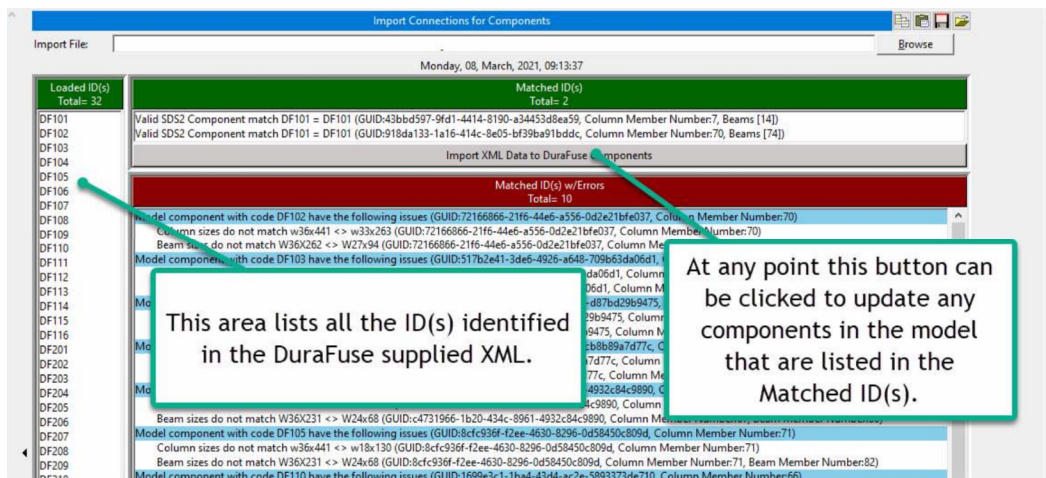

Figure 5-2. Update the XML and Identified Connection ID's
3. Select the button **Import XML Data to DuraFuse Components** (see Figure 5-2). This will import all the connection information for each connection ID assigned in the model